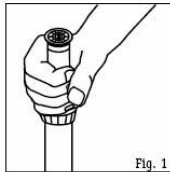

Fig. 1
2. Ratchet riser (Fig. 1) to align the right edge of the spray arc (looking from "behind" the sprinkler) to the right edge of the area to be irrigated.